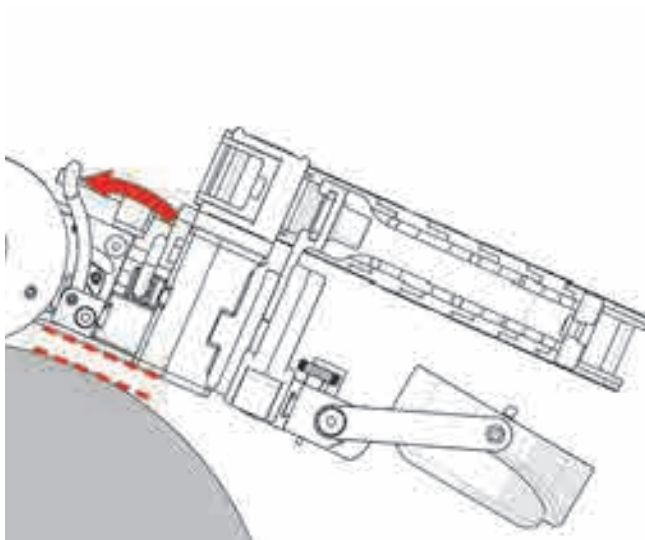

Figure 4-98 Align parallel with scan surface
7. Align the raster arm so that it is parallel with the tangent of the scan surface (see Figure 4-98 on page 163).